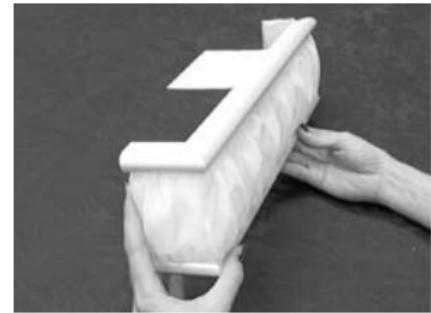

Figure C8
10. Slide the right valance return over the folded fabric edge of the Shirred Valance Insert ensuring that the fabric slides into the front of the valance return. (See Figure C7) Gently work the valance return over the folded fabric until the back channel of the valance return slides over the edge of the small valance return connector. When completed, this connection will form a finished corner. (See Figure C8)